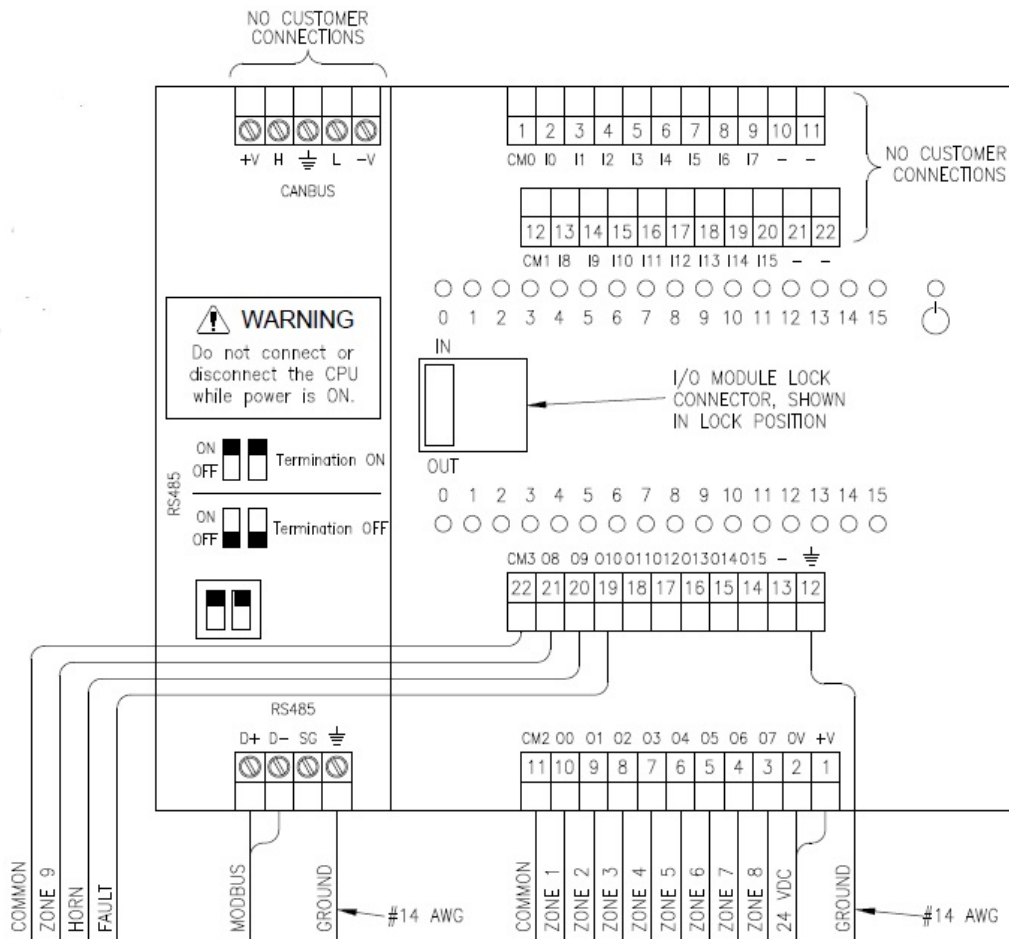

Figure 21. ModCon75 Touch Wiring
- The I/O relay outputs require an external 24VDC power supply. Connect the 24V and 0V terminals as shown in Figure 21 & 22.